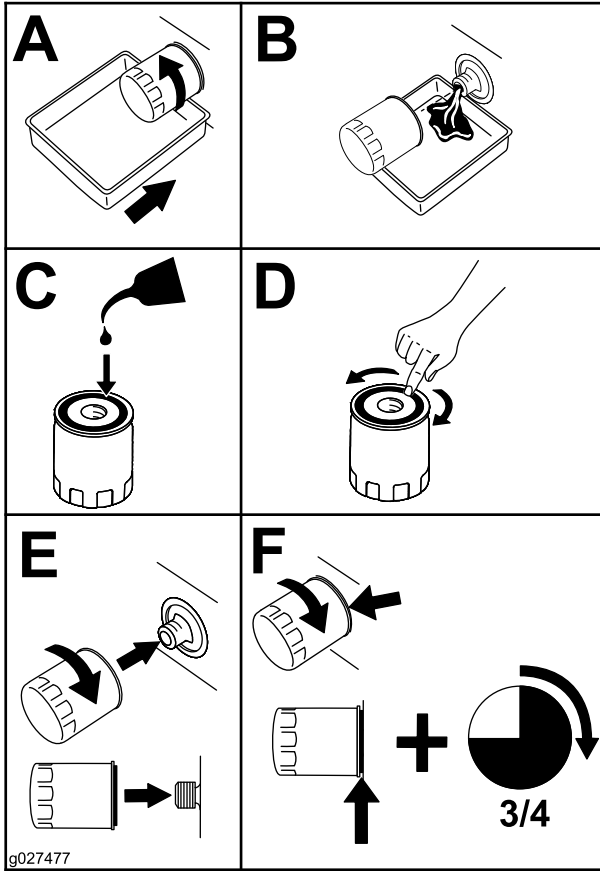

Figure 31
- Remove the engine-oil filter (Figure 31)